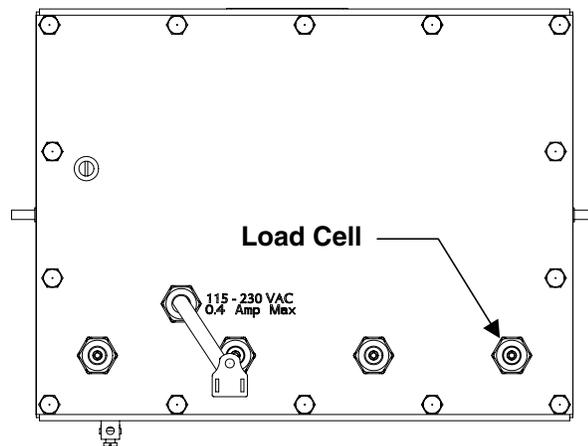
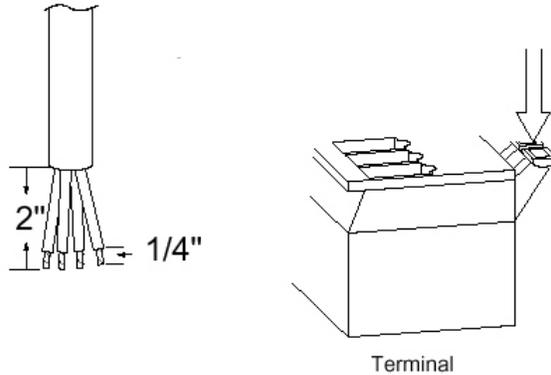

Figure No. 2
Figure No. 3
1. Remove the 14 acorn nuts securing the back panel to the main housing, then loosen the bottom-right cable gland connector for the load cell. This gland connector is located on the rear panel of the enclosure. Refer to Figure No. 2 for illustration of the connector layout.
3. Remove 2" of the outer insulation jacket then remove 1/4" of insulation from each of the 4 wires and shield without sense leads or 6 wires and shield with sense leads (refer to Figure No. 3).
1. Loosen the cable gland connector(s) for the serial cable. The gland connector(s) for the serial data are located on the rear panel of the enclosure. Refer to Figure No. 2 for an illustration of the gland connector layout.
3. Remove 2" of the outer insulation jacket then remove 1/4" of insulation from each of the wires (refer to Figure No. 3).
To connect the control cable to the preset weight comparator/checkweigher logic level output connector P8, first loosen a gland connector located on the back of the 220. Refer to Figure No. 2 for the location of the connectors. Slip the cable through this connector and into the enclosure. Remove 2 inches of the cable insulating jacket then 1/4 inch of insulation from each of the internal wires (refer to Figure No. 3). Make the proper terminations on terminal block P8. To terminate a wire, first press down on the terminal block release bar, insert the wire into the terminal and remove pressure from the release bar locking the wire in place.